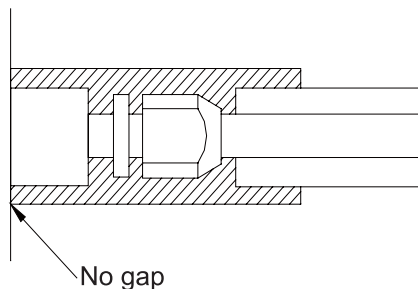

Figure 3-1-6
- The joint connecting to the indoor unit must be wrapped by thermal insulation material. There shall be no gap between the connecting pipe joint and the wall of the indoor unit. Refer to Figure 3-1-6.